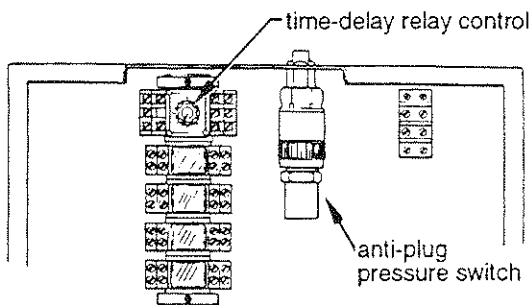

Fig. 16 Control box time-delay relay
1. **PRESET TIME-DELAY RELAY TO "2"** Preset the control box time-delay relay control (fig. 16) to "2" (approximately 3.5 seconds delay). The "2" setting has a good chance of being the final setting.
Adjust the time-delay relay (fig. 16) for maximum load per plunger cycle. Start with the time-delay relay control at "2" (approximately 3.5 seconds).